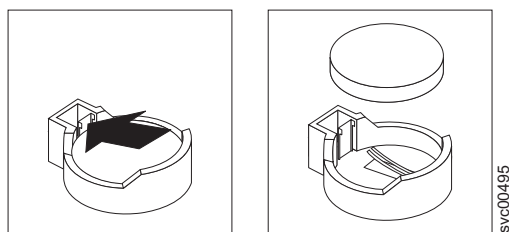

Figure 134. Removing the SAN Volume Controller 2145-8A4 CMOS battery
7. Remove the CMOS battery, as shown in Figure 134: